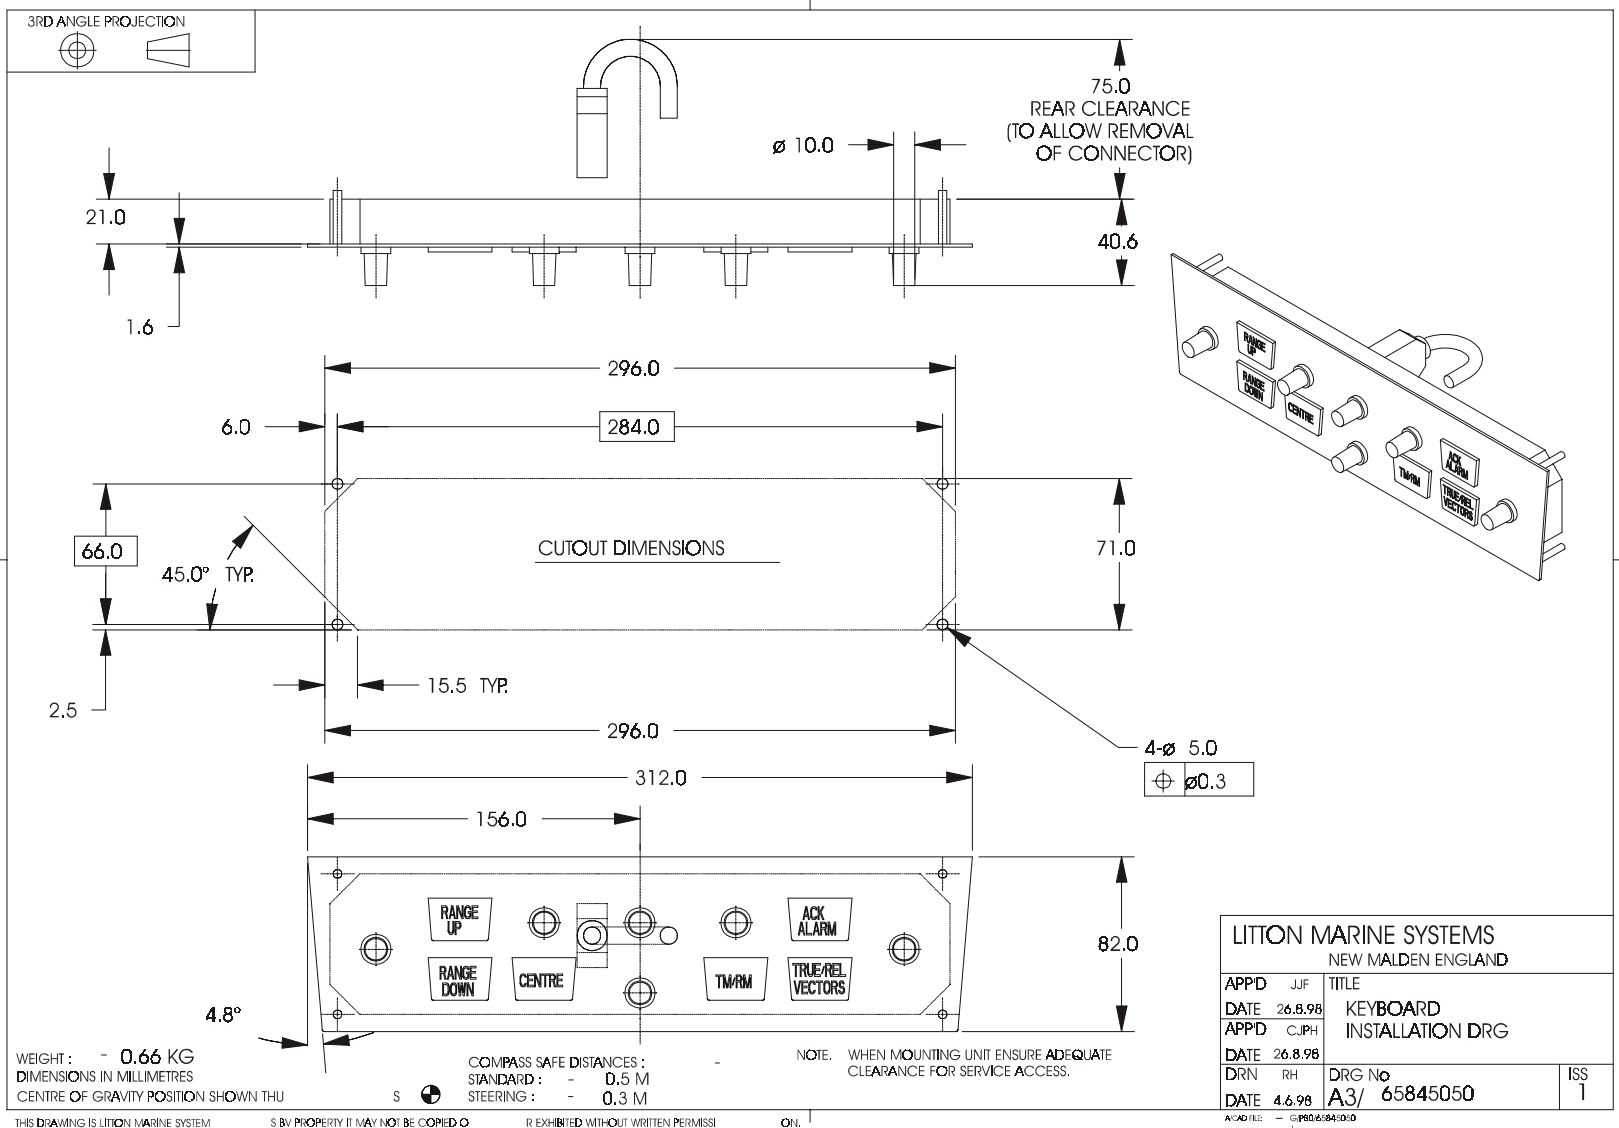
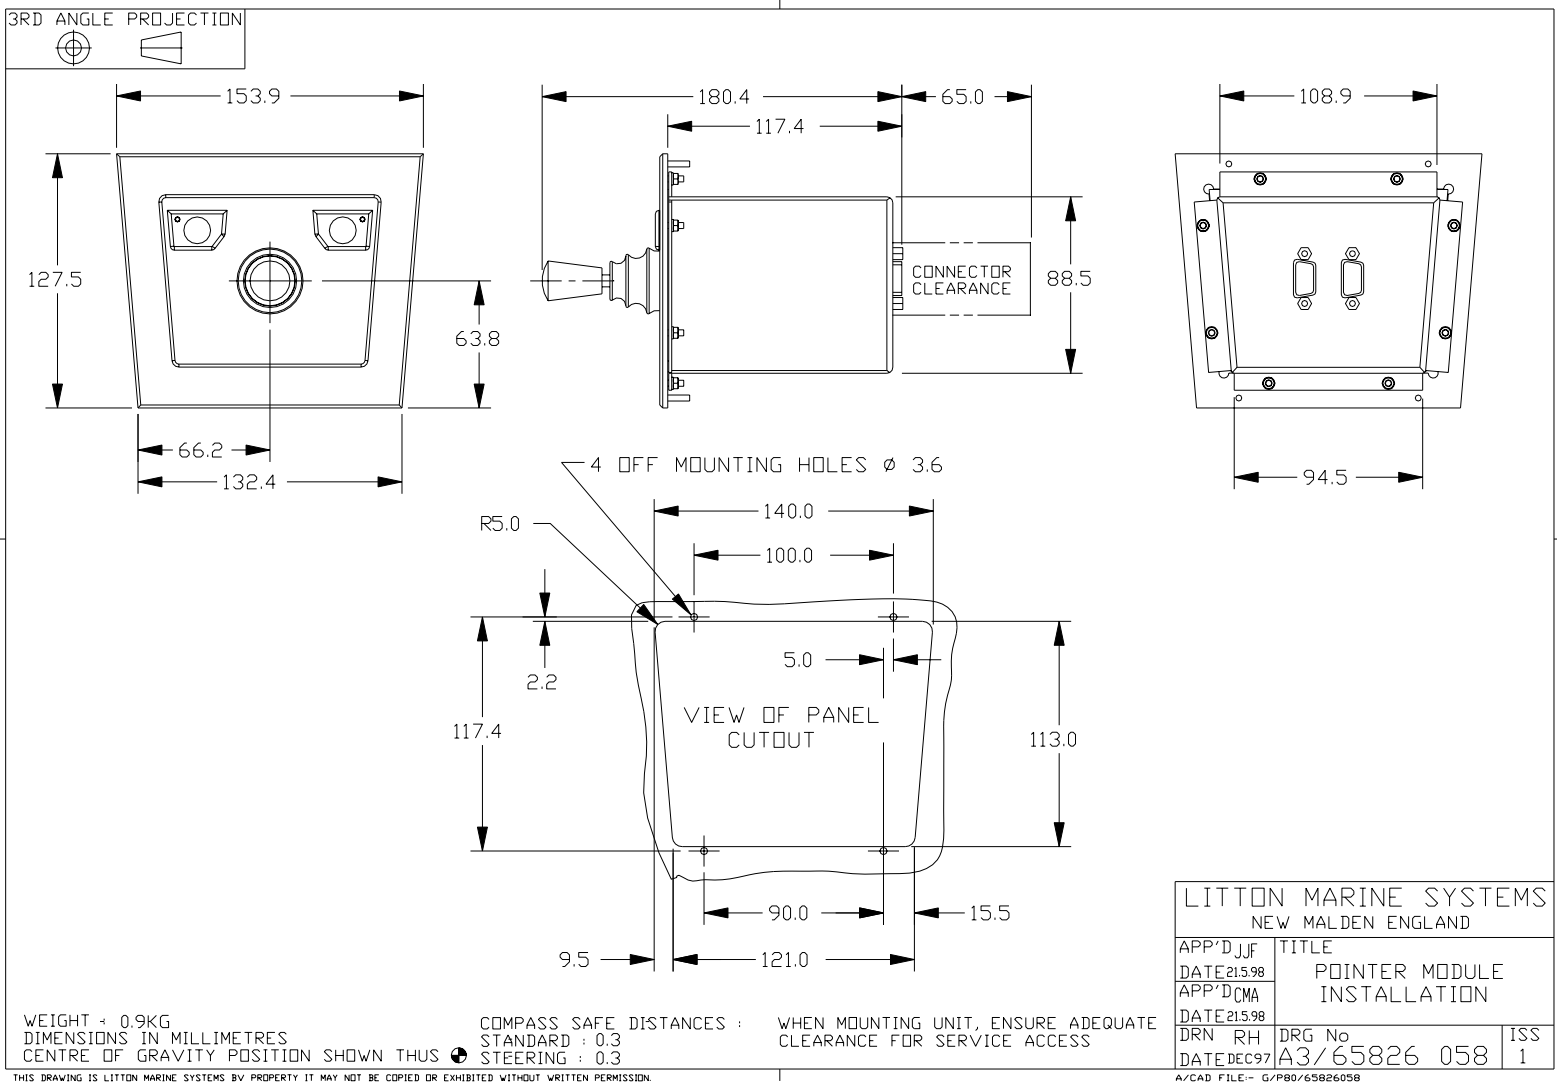

Figure 5.1 - Keyboard Installation Drawing
Figure 5.3 - Pointer Module (Joystick/trackerball) Installation
Refer to Figures 5.1 to 5.5 for details of individual control modules.
- Refer to Figures 5.1 to 5.5 for installing the Keyboard, ON/OFF Switch, Pointer, Memory Card and Brilliance modules. The pointer module installation drawing (Figure 5.3) is applicable to both Trackerball and Joystick pointer modules.